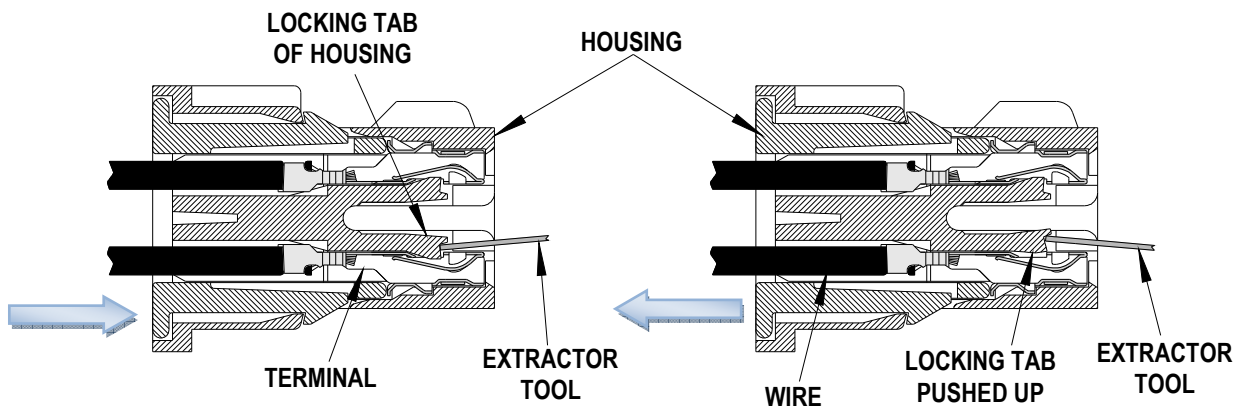

Figure 5
3. While rotating the extraction tool down, bend the terminal locking tang down and push the terminal back through the connector slot. Make sure that the terminated wire is pulled out at the same time. See Figure 5.